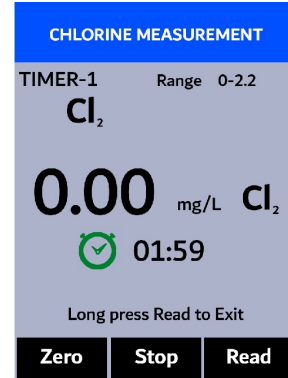

Figure 40.
8. The SP-710 will continuously display the free or total chlorine concentration as the timer counts down (Figure 40). If the real-time readings remain steady, press **Stop** () to stop measurement timer early or wait for the 2-minute timer to end.